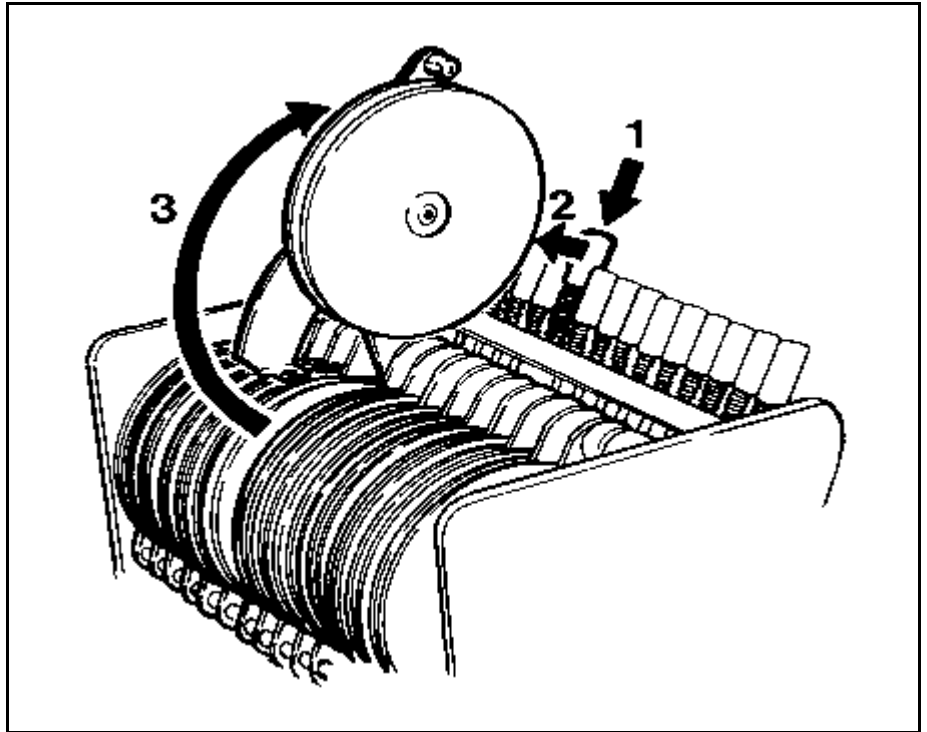

Figure 4-28. Lifting up the cover tape take up reel
- 2.** Pull the button forward while holding it down. When the button is released the locking mechanism will be released, allowing the button to come up as shown in Figure 4-28.